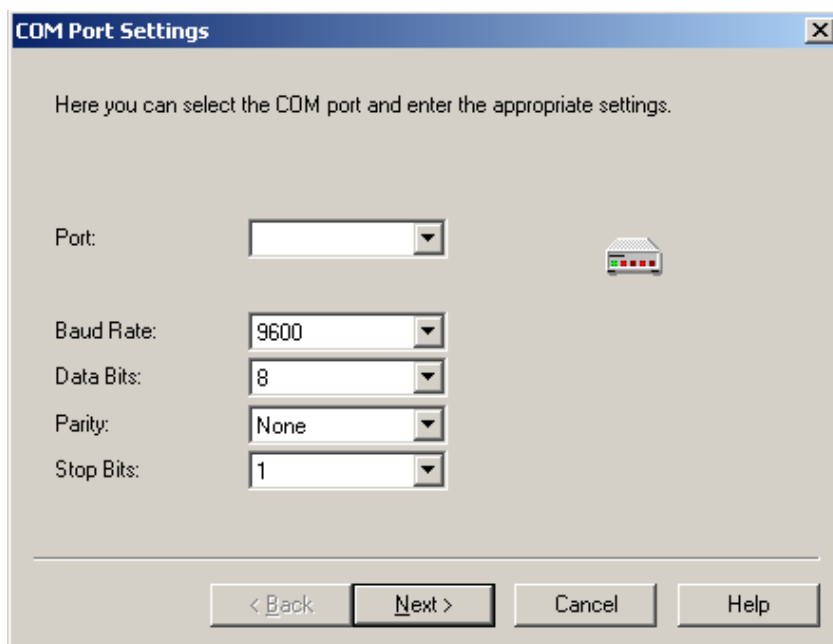

Figure 81. COM Port Settings Dialog
7. Click **Add** to produce the COM Port Settings dialog shown in Figure 81.